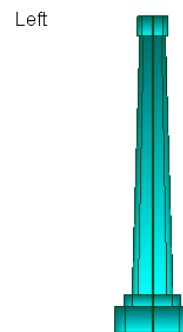

Figure 3-90 Base feature of the model
6. Select the **Z** radio button and **Global** option of the **Axes** drop-down list from the **Axis Options** area and then select the polyline; the base feature is created, as shown in Figure 3-90.